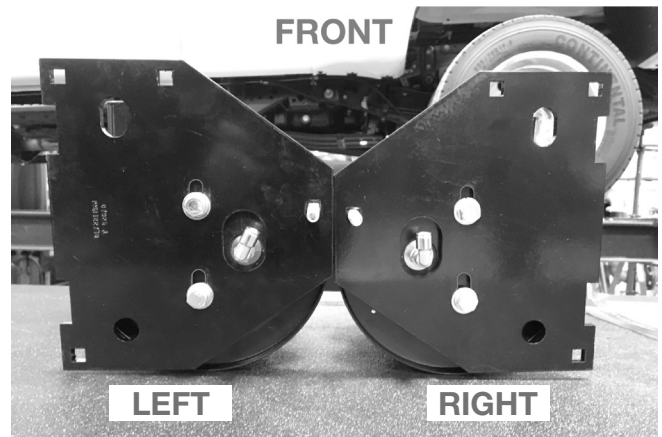

Fig. 7
2. Insert 3/8"-16 x 1" carriage bolts (DD) into the square holes on the brackets, then secure the upper air spring bracket (E) onto the top of the air springs using 3/8"-24 x 7/8" hex bolts (W), 3/8" lock washers (X) and 3/8" flat washers (R). At this stage, the air spring assemblies are left- and right-hand units. Push the brackets as far forward as possible (Fig. 7). Torque the hardware to no more than 20 lb.-ft. (27Nm).